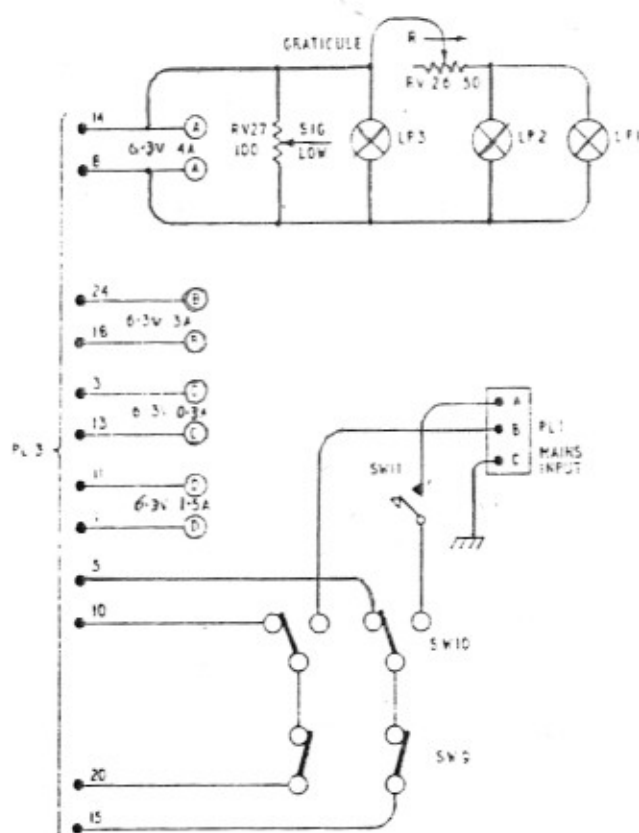

Fig. 21. The Heater Supply and Control Circuits.
- b) Connect the Oscillator (F) to the input of Y1, and adjust it to deliver a frequency of 1000 c/s, $\pm 10\%$. Set the amplitude to give $\frac{1}{2}$ cm picture height. Switch the trigger selector to Y1+, connect Y2 to test point 1 (colour coded brown, see Fig. 21) and adjust the LEVEL control to the centre of that part of its range over which a signal is visible. Connect the Y2 input to test point 2 (colour coded Red, see Fig. 21) and adjust RV20 to the centre of the range over which the bistable triggers, i.e. a square-wave output at test point 2. Remove the 1000 c/s input.